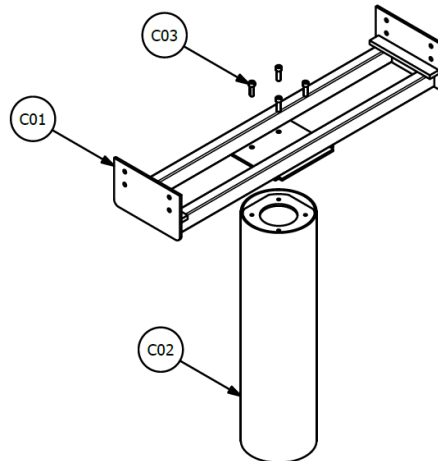

FIG 02: INTERMEDIATE BASE
1. Assemble Mount (C01) to Column (C02) using Fastener (C03), 4 places. See Figure 02.